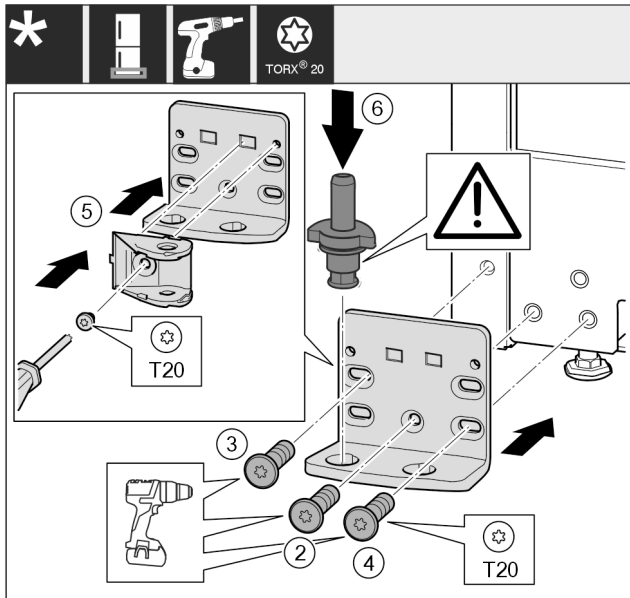

Fig. 49 \*
- ▶ Place the swap bearing block on the other side and use a screwdriver to screw it on. Start with the screw Fig. 49 (2) at the bottom in the middle.\*
- ▶ Tighten screw Fig. 49 (3) and screw Fig. 49 (4).\*
- ▶ Turn the closing damper connection Fig. 49 (5) by 180°. Use screwdriver to screw it onto the other side of the swap bearing block.\*
- ▶ Insert the bearing bolt Fig. 49 (6) completely. Ensure that the latching cam is pointing towards the rear.\*